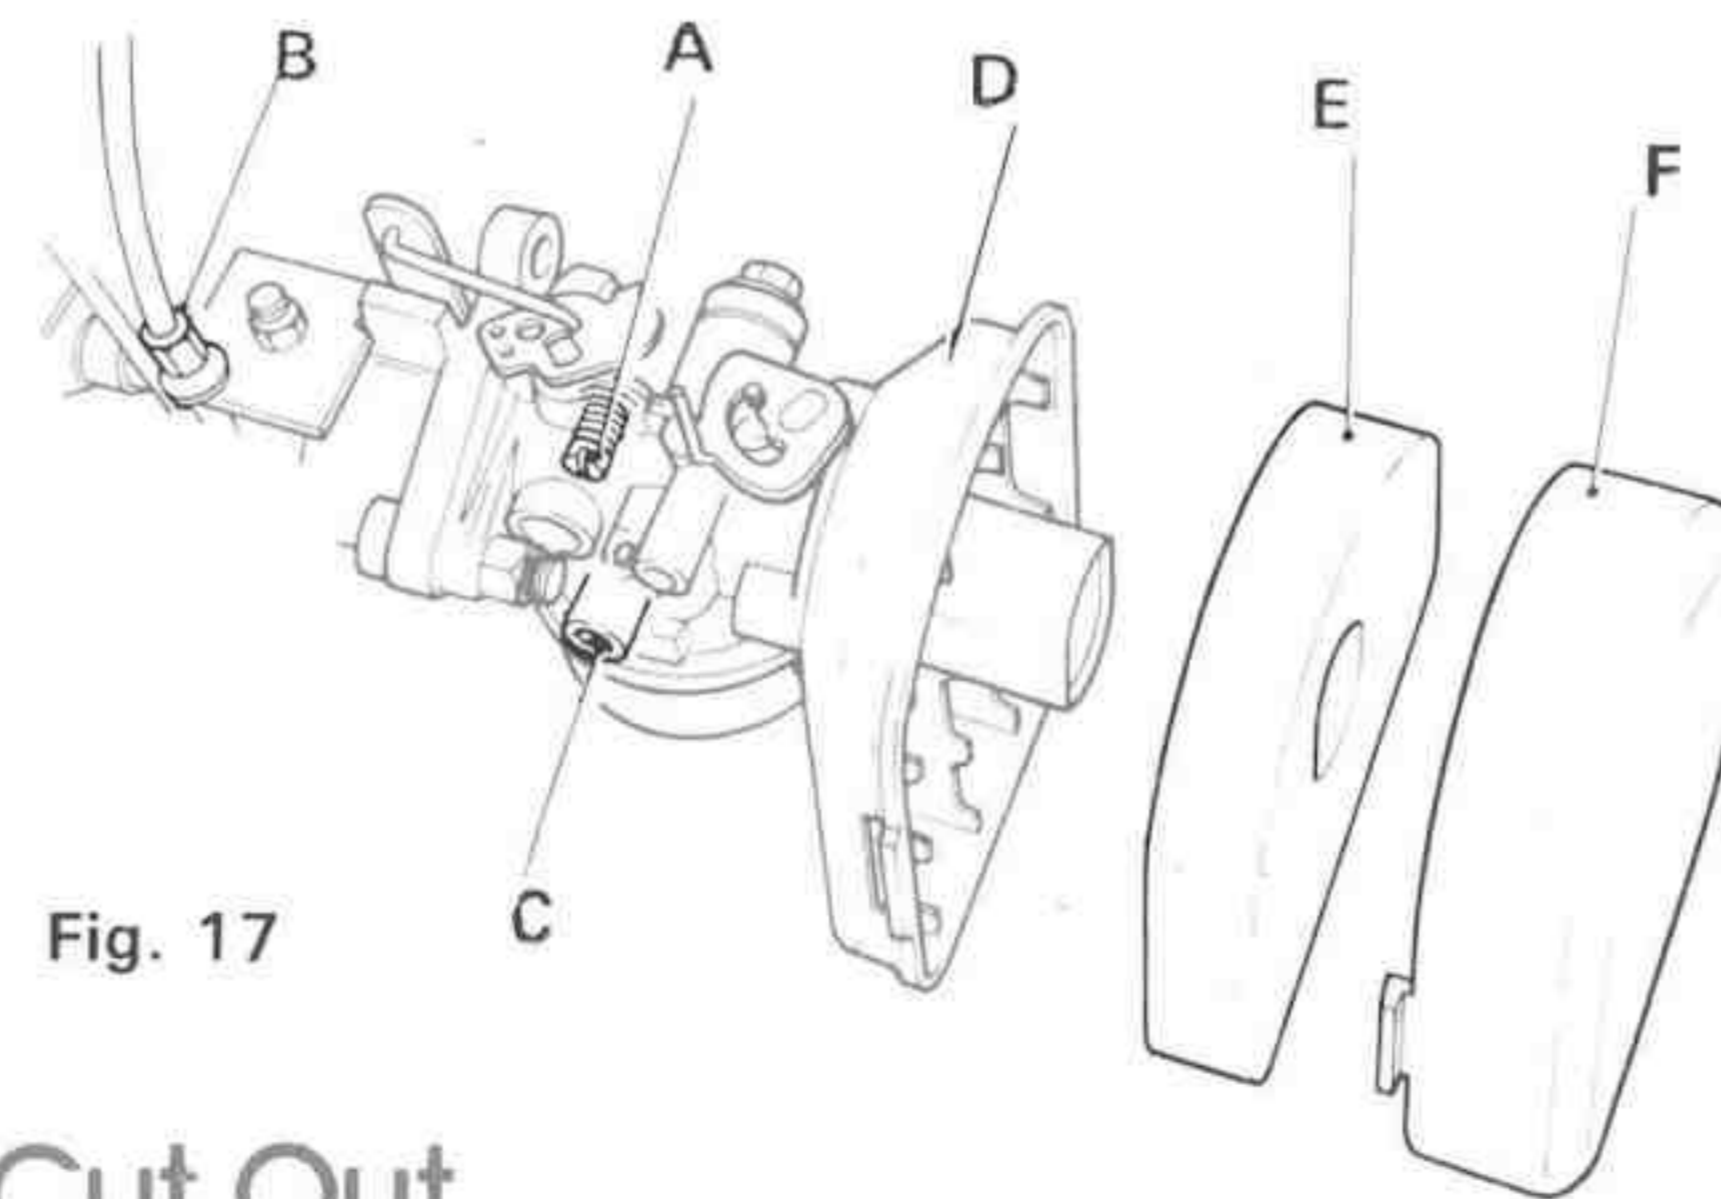

Fig. 17
- 2 Adjust the idling speed by turning the throttle stop screw (A Fig.17) clockwise to increase speed and anti-clockwise to decrease it. Correct setting is when the engine just ticks over gently.